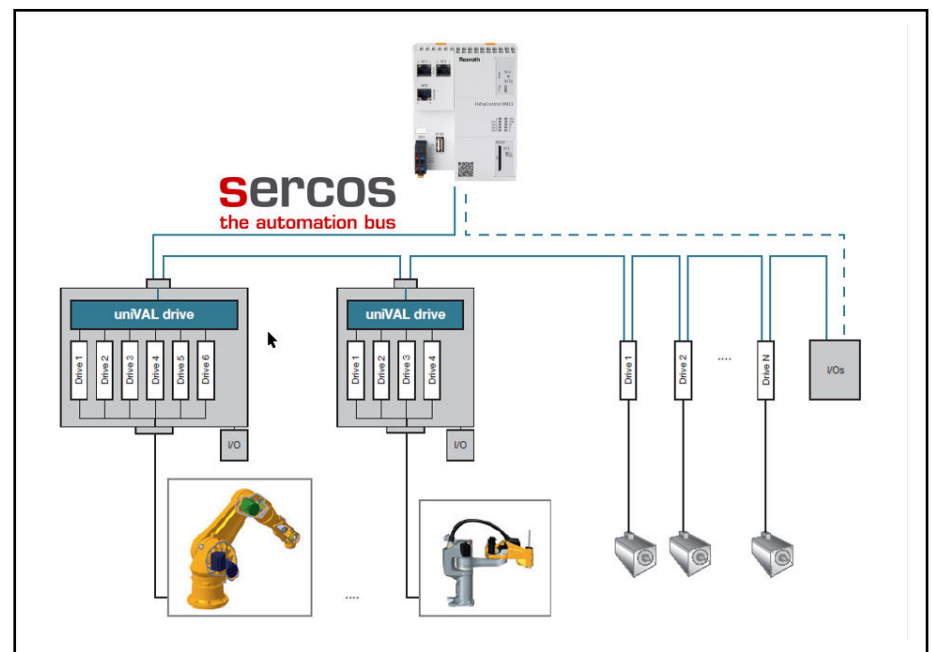

Fig. 11-1: Schematic topology structure of the Bosch Rexroth control technology with uniVAL drive
- Connect the MLC to the respective robot control of the company Stäubli using a Sercos bus, refer to fig. 11-1 "Schematic topology structure of the Bosch Rexroth control technology with uniVAL drive" on page 443 (the Stäubli robot control has to be provided with the respective communication interface)